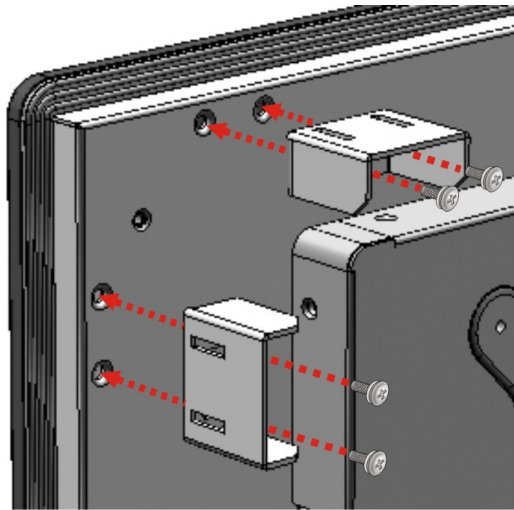

Figure 3-25: Secure the Mounting Clamp Holders
Step 3: Secure the mounting clamp holders to the corresponding holes on the rear of the monitor (**Figure 3-25**).